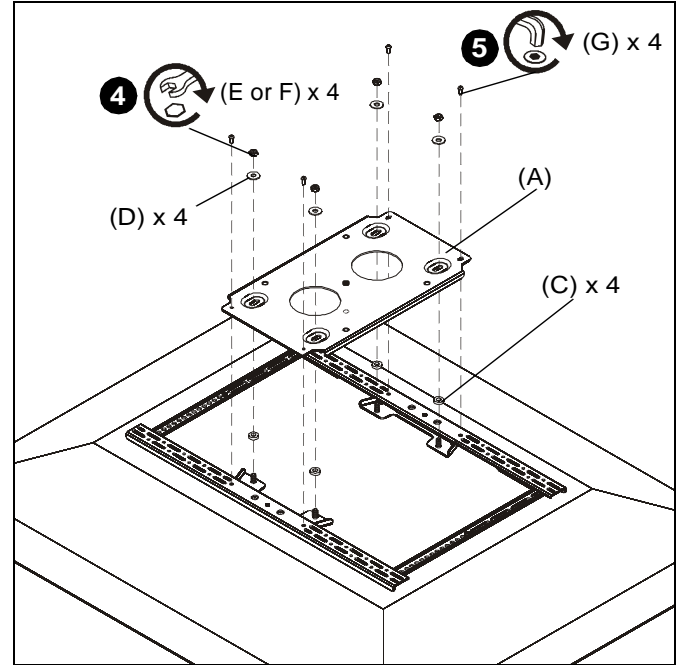

Figure 2
- Use 5/16-18 hex nuts (E) if installing to TS525 or iCF50 (large) mount
- Use 1/4-20 hex nuts (F) if installing to TS3XX or iCF30 (medium) mount
4. Use four selected nuts (E or F), four washers (D) and four spacers (C) to attach adapter bracket (A) to interface brackets. (See Figure 2)
5. Use four #10-24 x 1/2" button head cap screws (G) to secure adapter bracket (A) to interface brackets. (See Figure 2)